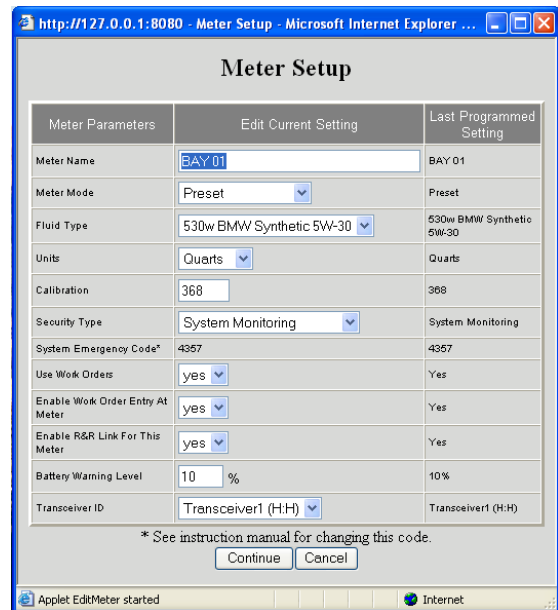

FIG. 85 Meter Setup
1. Locate the blank meter record that was added, or the meter record that needs to have information changed. In the corresponding Action column, click **Modify**. The Meter Setup screen appears (FIG. 85).